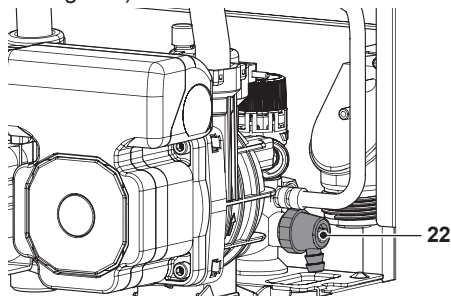

Fig. 9.4
- Open the central heating drain cock (22 in Fig. 9.4).